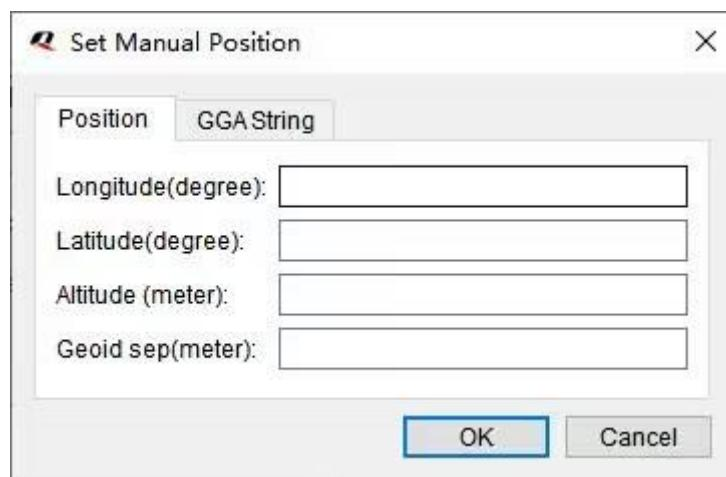

Figure 27: Setting Manual Position
**Step 5:** To utilize a fixed position, you can select the checkbox labeled “**Use manual position**”, and a “**Set Manual Position**” window will appear as shown in Figure 27: Setting Manual Position. Once you input the required data, the uploaded position will be the fixed value you have manually set. If the checkbox remains unchecked, the real-time position in the **GGA** message output by the module will be used.